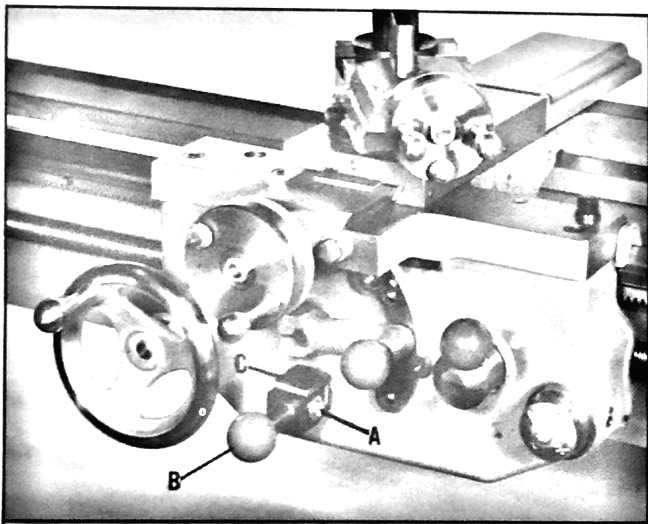

Fig. 28.
Loosen set screw located on left end of shaft (A) Fig. 28, and rotate lever (B) clockwise full turns, not half turns, until proper tension is obtained, and retighten set screw. If, however, this adjustment is too tight and one full turn counter-clockwise proves to be too loose, a half turn is necessary. This means that the stop bracket (C) Fig. 28, must be rotated so as to have the stop part on top for proper operation of the clutch lever. To do this, loosen set screw, rotate lever (B) and stop (C) together until disengaged from clutch shaft. Do not lose the relative position of the stop to the lever when disengaged, but carefully rotate the stop (C) 1/2 turn and reassemble to clutch shaft.